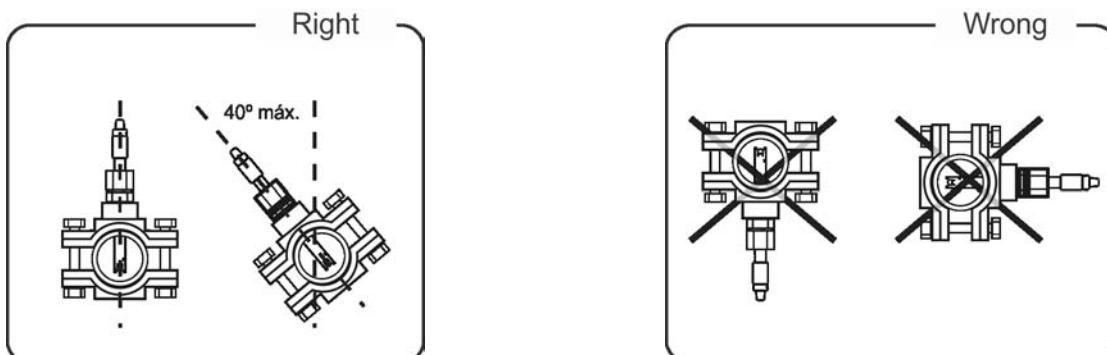

Fig. 9
4. **Install always the electrodes vertically or with a maximum inclination of 40°. (Fig. 9).**